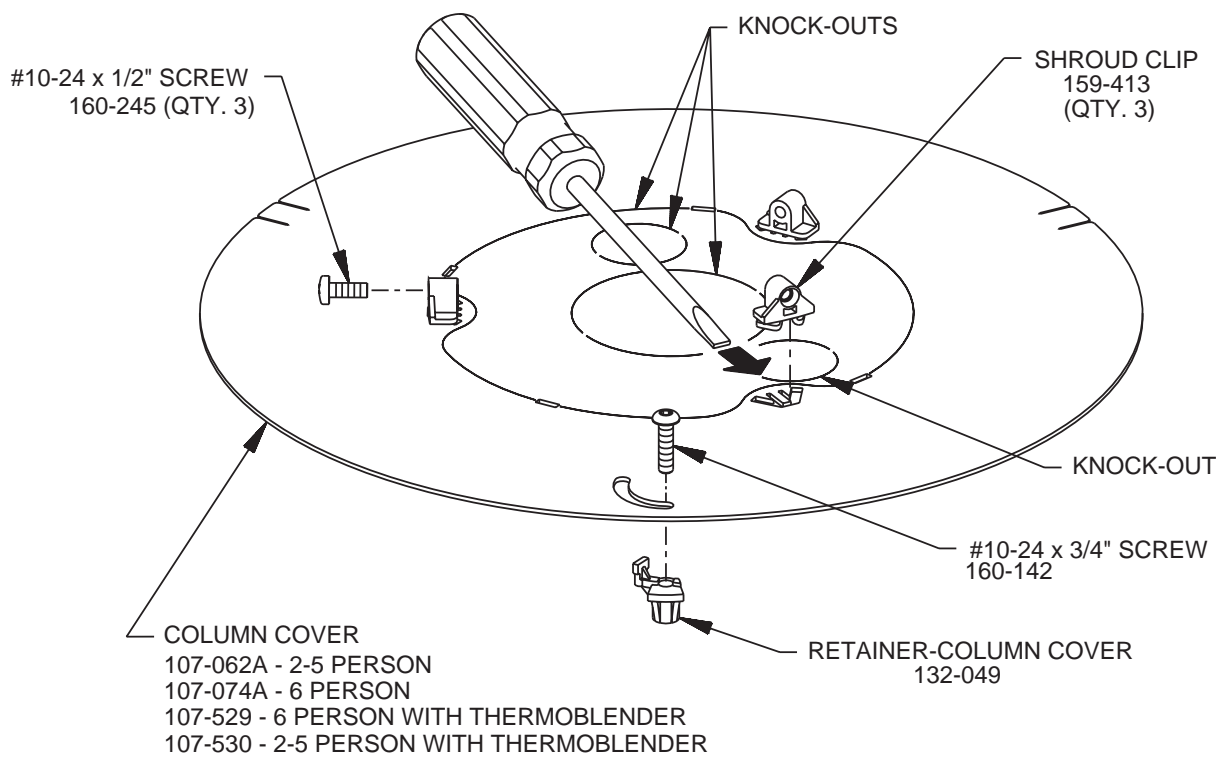

Figure 11
2. Carefully remove the necessary knock-outs from the cover (see Figure 11).
3. Insert the three shroud clips into the locations shown in Figure 11. Snap the clips in place using a flat blade screwdriver.